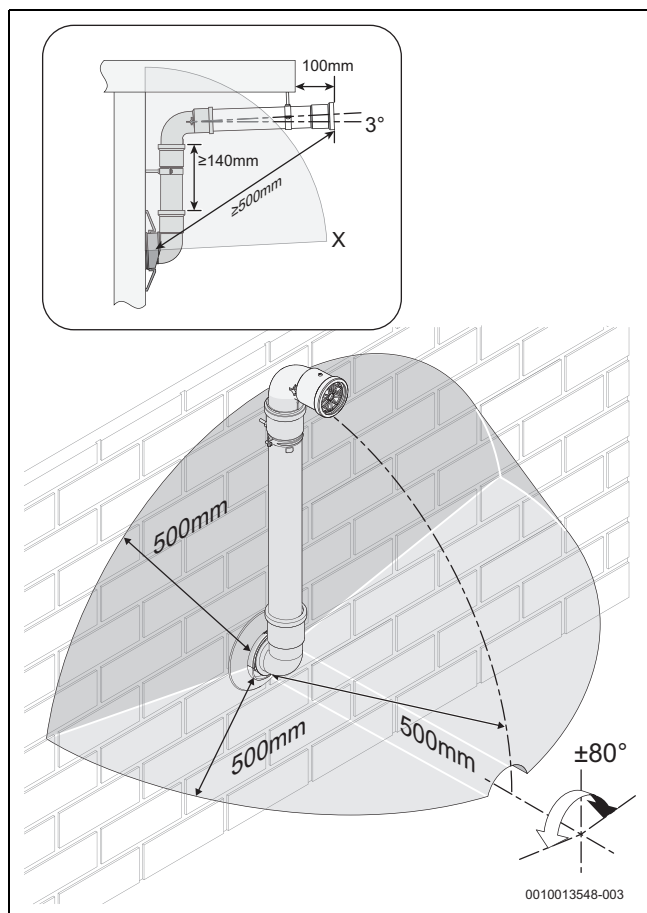

Fig. 26 Terminal exclusion zone
- ▶ Do not terminate the plume management inside the terminal exclusion zone (shaded area) shown in figure 26.